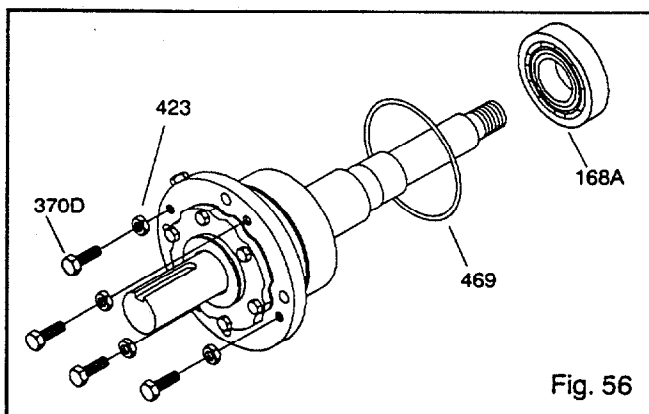

Fig. 56
4. Remove jack screws (370D) with nuts (423) (Fig. 56).
5. Remove bearing housing O-ring (469).